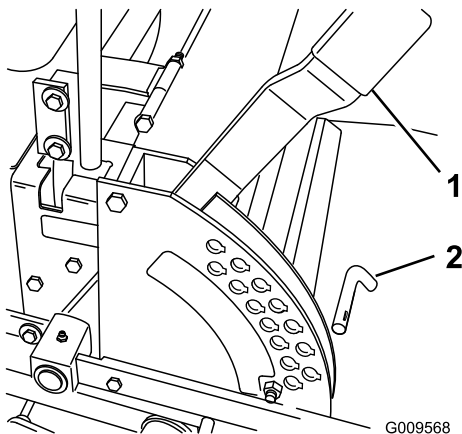

Figure 30
1. Raise the height-of-cut lever to the TRANSPORT position (also the 127 mm (5 inches) cutting-height position) (Figure 30).
2. To adjust, remove the pin from the height-of-cut bracket (Figure 30).
3. Select a hole in the height-of-cut bracket corresponding to the height of cut desired, and insert the pin (Figure 30).